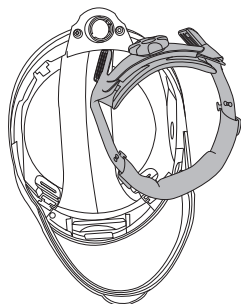

fig.3a
Step 1: Remove completely the headgear (See fig.3a).